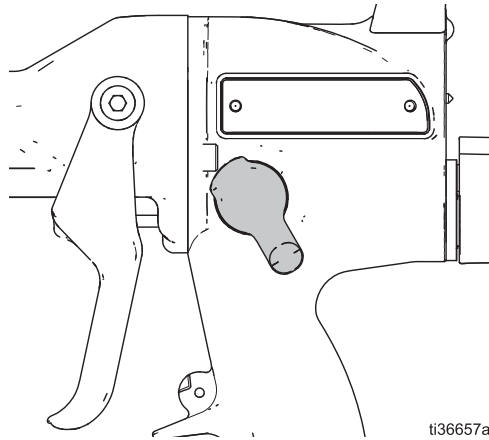

FIG. 8 Closed Position: Fan air is off for a small round pattern.
3. Rotate the lever (1) to the preferred closed position, see FIG. 8. More rotation will increase the spring tension. Rotate at least 90 degrees to ensure the valve will spring open. Do not rotate more than 180 degrees. The tension of the spring (5) will try to rotate the lever back, but do not let the tension relax.
4. Hold the lever adapter (4) firmly in this location and remove the lever arm (1).
5. Tighten the set screws (3) in the lever adapter (4) to the shaft (6). Torque to 7 in-lbs (0.8 N•m).